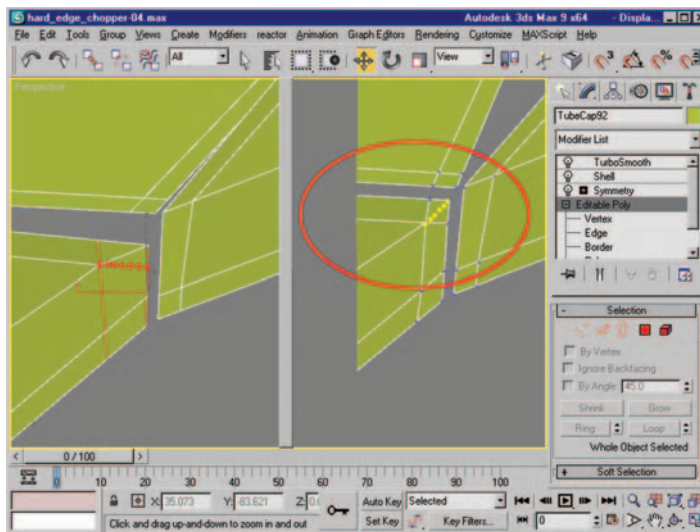

Figure 8.70 Dotted red line illustrates the cut to be made (left). Yellow dotted line represents the edge to remove (right).
69. Again using the Cut tool, cut an edge as shown in Figure 8.70 (left) and then delete the diagonal edge highlighted in yellow in Figure 8.70 (right) to restore an all-Quad corner. *Note: Some moving of edges and vertices may be required.*